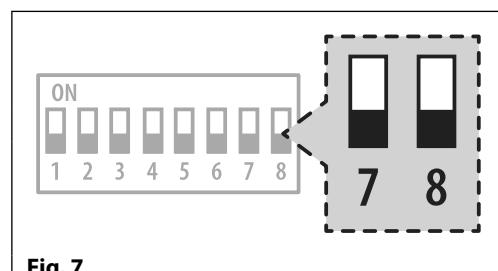

Fig. 7
2. Set dip-switches 7 and 8 to the **OFF** position, see Fig.7.